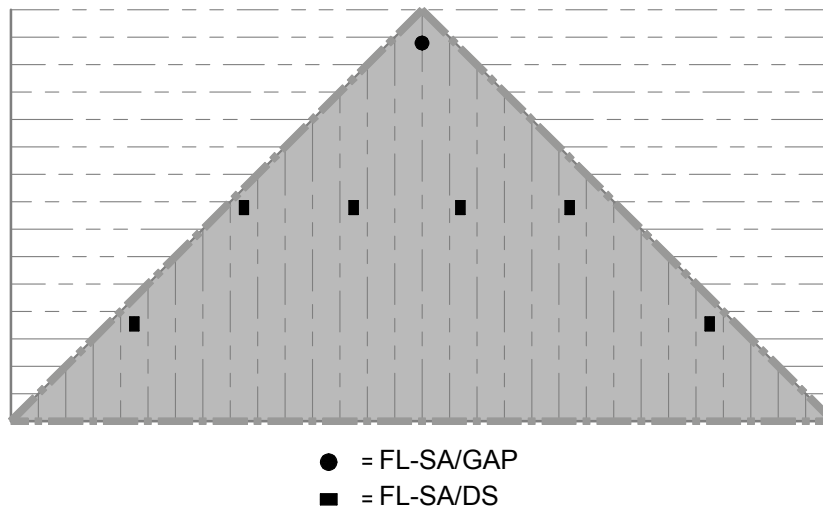

FIGURE 23: HYDRAULIC CALCULATIONS REQUIRED FOR DS @ HIP (FRAMING MEMBERS PARALLEL TO SLOPE)
- Calculate all sprinklers within the hip area shown shaded. See Figure 23.